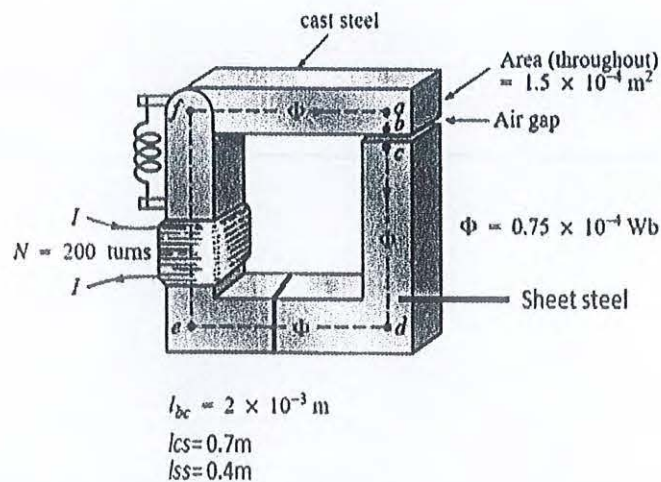

Figure 6
4. Calculate the value of current required to establish magnetic flux in the circuit shown in Figure 6. Use attached B-H curve if required. [25]